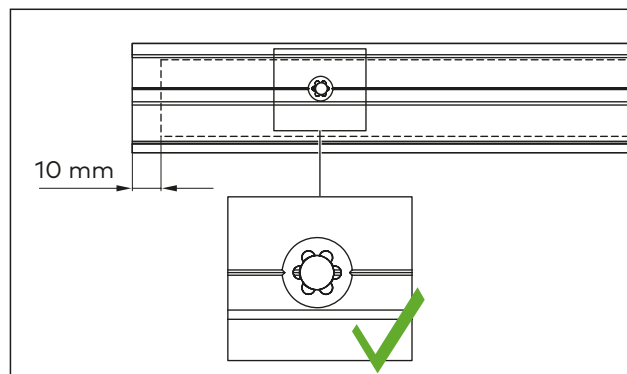

Fig. 13 Positioning the lining profile
- Insert the lining profile into the counter profile in such a way that the pre-drilled holes of the lining profile and the track are lined up with each other. The lining profile should be shifted in by a minimum of 10 mm on each side (Fig. 13).